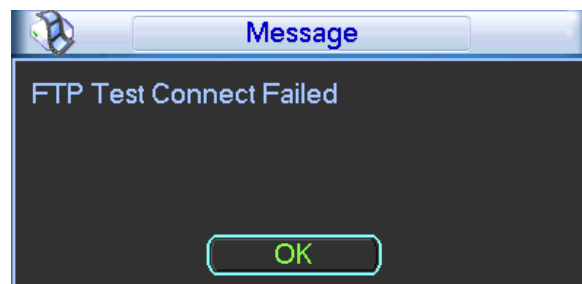

Figure 5-29
- Click the Test button, you can see the corresponding dialogue box to see the FTP connection is OK or not. See Figure 5-29.